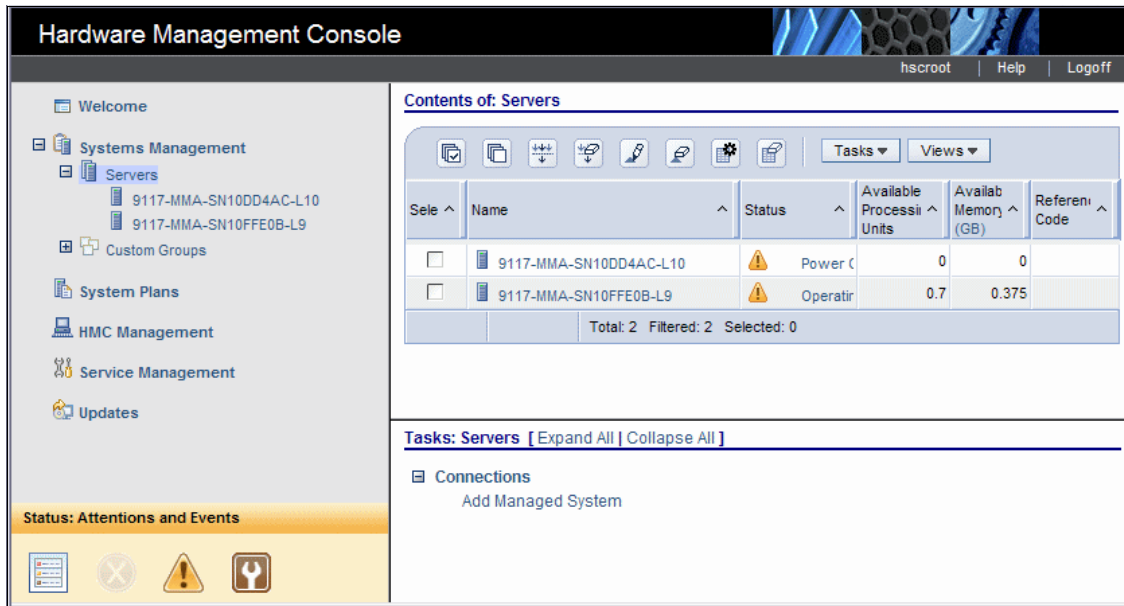

Figure 2-7 System Management servers window
3. Click **Servers** to see a listing of individually defined servers in table form in the work pane, as shown in Figure 2-7.